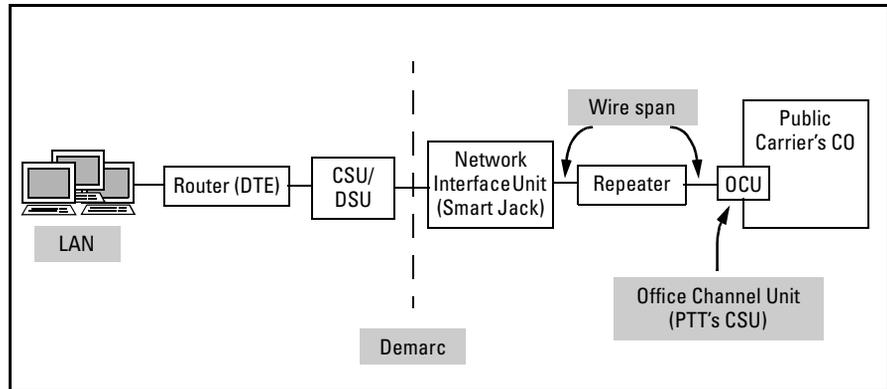

Figure 5-2. Local Loop
When you lease an E1- or T1-carrier line, your LAN must be connected to the public carrier's nearest central office (CO). All of the telecommunications infrastructure that is used to connect your LAN to the CO is collectively called the *local loop*. Because the CO may be located miles away from your premises, this telecommunications infrastructure may include repeaters, as well as switches, cable, and connectors. (See Figure 5-2.)
All carrier lines require the same basic components on the local loop, although the components may differ slightly in form and design. (See Figure 5-2.) These components are listed below:
The ProCurve Secure WAN serial modules are used when the public carrier provides an external CSU/DSU for an E1- or T1-carrier line. (See Figure 5-2 on page 5-5.) ProCurve Networking offers two serial modules: